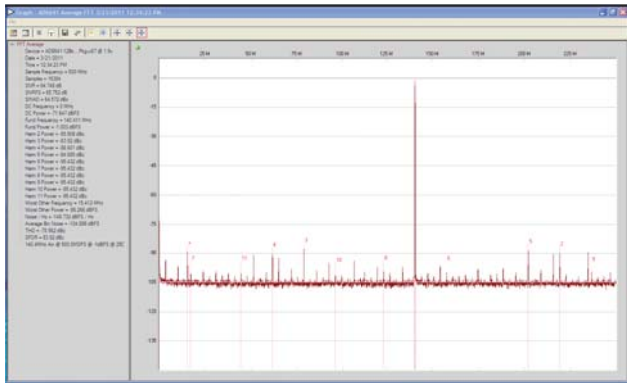

Figure 16. Graph Window of VisualAnalog
1. Adjust the amplitude of the input signal so that the fundamental is at the desired level. Examine the **Fund Power** reading in the left panel of the **VisualAnalog Graph – AD6641 Average FFT** window (see Figure 16).